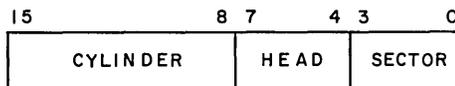

Figure 11. A Register During Address Status Function
Address Register Status (010): For this input function, the A register receives the File Address Register status of the controller. The File Address register contains the Sector Record Address. See Figure 11.